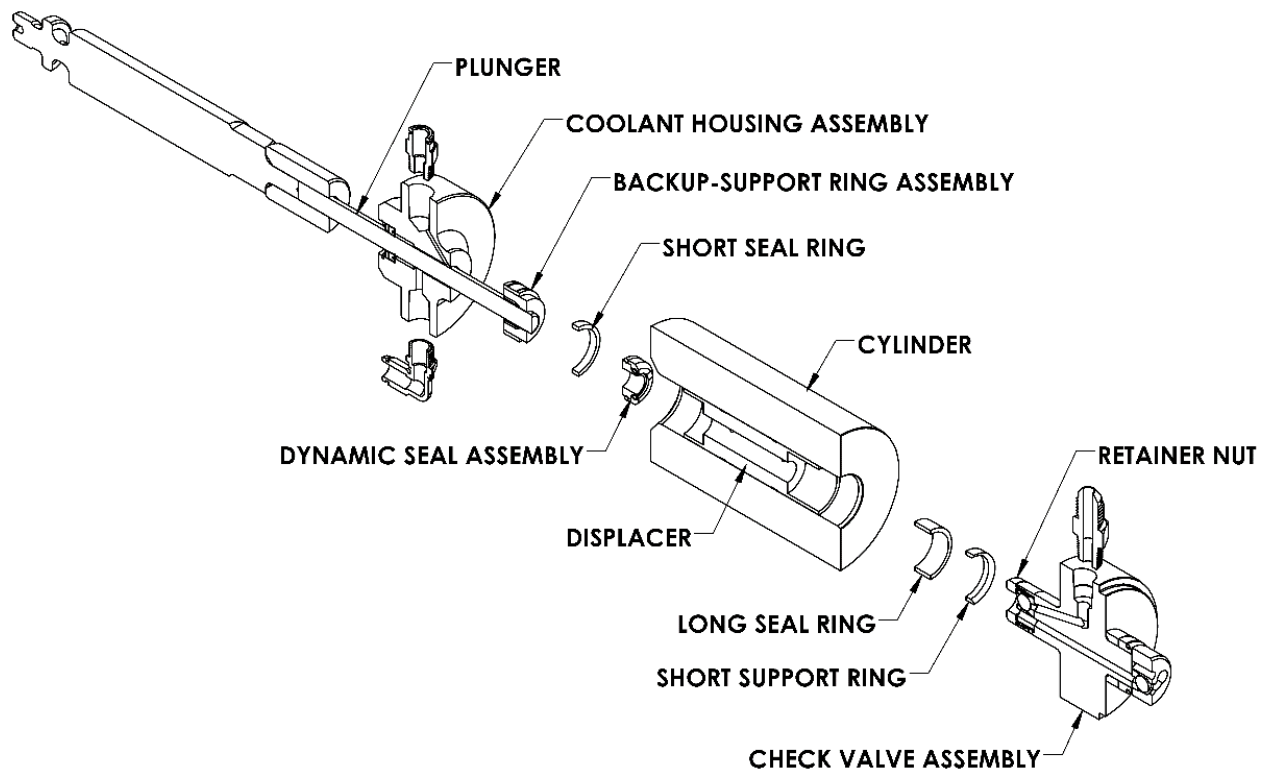
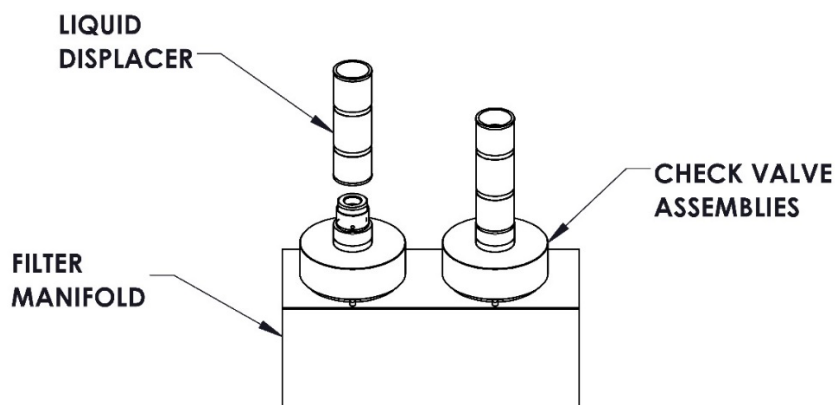

Figure 31 High-Pressure Wet End Assembly Components
Figure 32 Installing the Liquid Displacer on the Check Valve Assembly
3. **Place** the displacer over the inlet check valve retainer (see **Figure 32** below) until it connects with the long seal ring (see **Figure 31** on previous page). Repeat this for all of the remaining check valve assemblies.